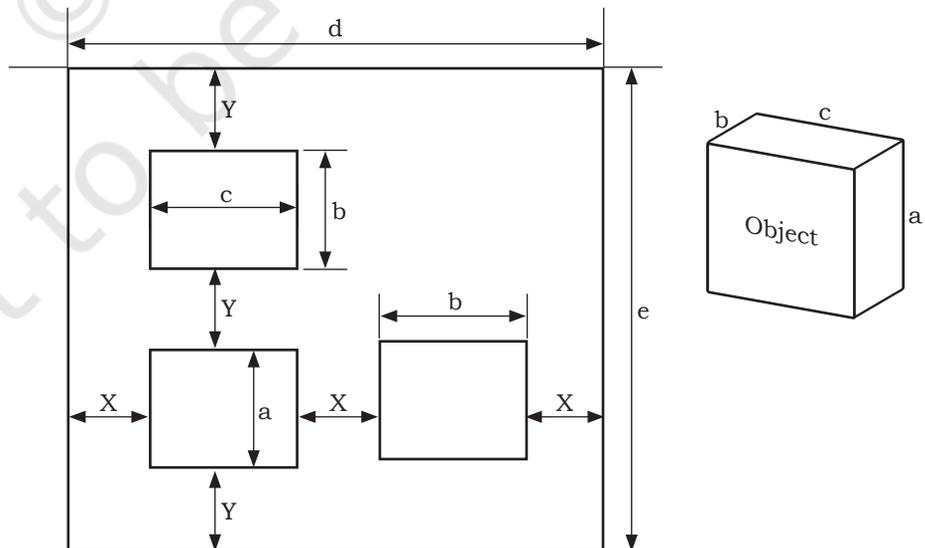

Fig. 1.38: Spacing of views
- Divide the 'free space' into three equal portions, both horizontally and vertically. This determines X and Y as shown in the Fig. 1.38.